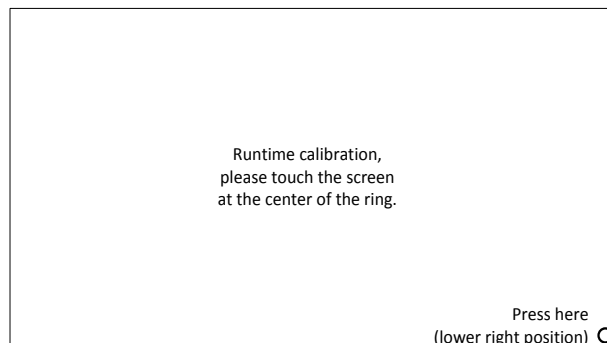

Figure B.3. Click Circle on the Lower Right Corner
4. After that, another message appears on the lower right corner on the touch screen (Figure B.3). Follow the instruction, press the circle. The touch screen position calibration is finished.